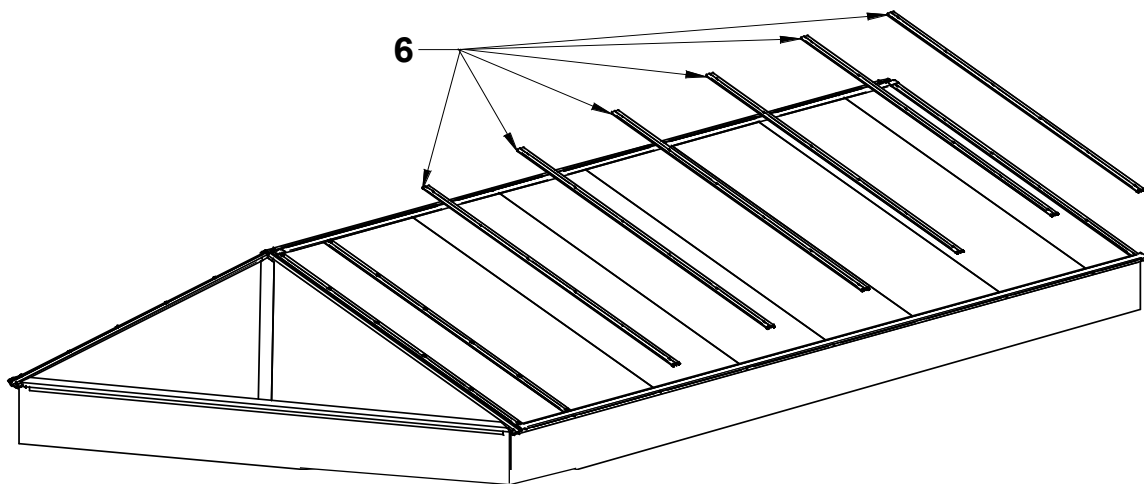

Figure 82 Assembly of polycarbonate panels and pressing profiles (step 3)
17. Now proceed according to (Figure 59 Fitting the end panel cover strip on 80 profile system). A cross-section of a correctly inserted gasket is shown in (Figure 82 Assembly of polycarbonate panels and pressing profiles (step 3)).